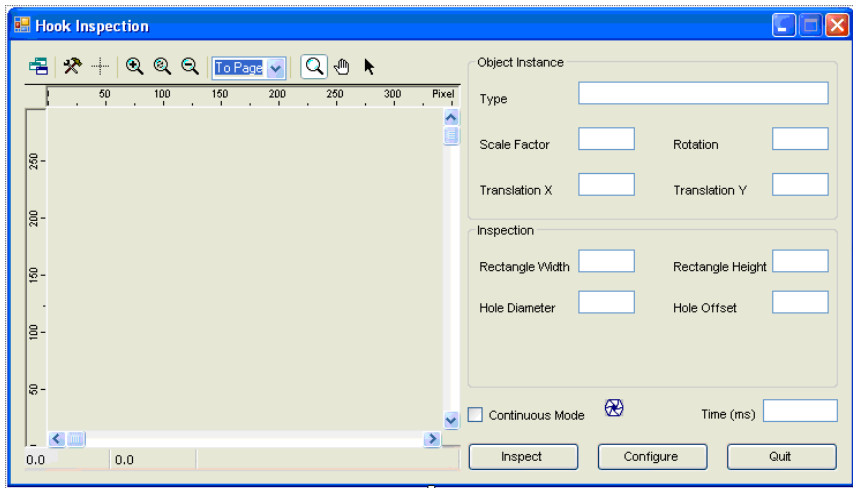

Figure 32 VB .NET Form for Tutorial 4
1. On your application form, add two text boxes. Name the first one **DiameterText** and the second **OffsetText**, and add appropriate labels. Set up your form as illustrated in Figure 32.